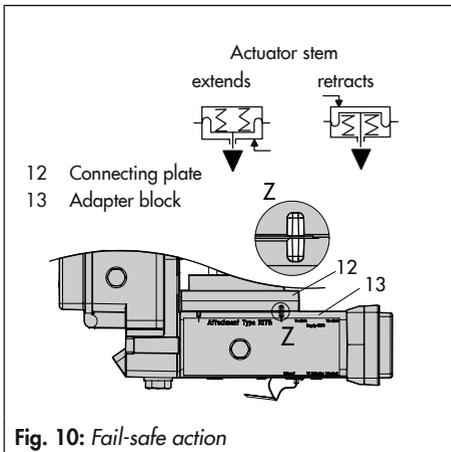

Fig. 10: Fail-safe action
7. Insert the screws (13.1) through the middle holes of the adapter block (13).
8. Place the connecting plate (12) together with the seal (12.1) onto the screws (13.1) corresponding to the fail-safe action "actuator stem extends" or "actuator stem retracts". The fail-safe action that applies is determined by aligning the groove of the adapter block (13) with the groove of the connecting plate (12) (Fig. 10).
9. Mount the adapter block (13) together with the connecting plate (12) to the actuator using the screws (13.1).